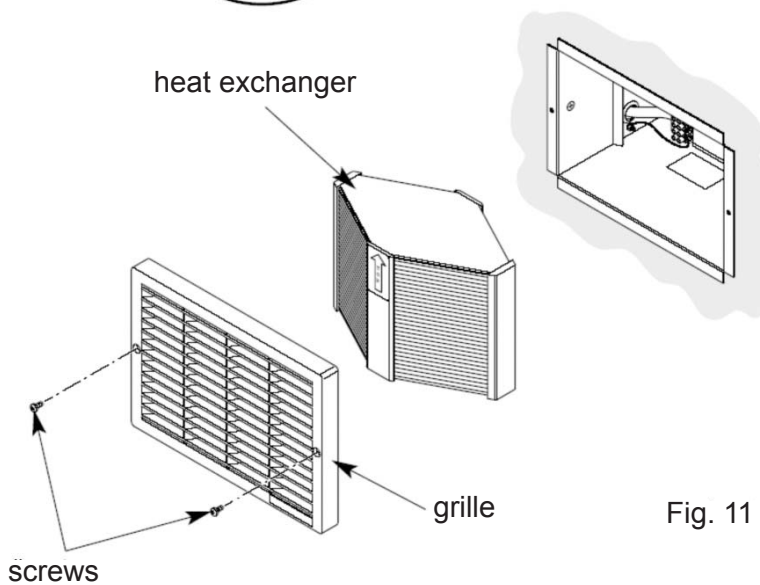

Fig. 11
6. Push the heat exchanger into the unit so that the **TOP** mark points forward and upwards (Fig. 11).
7. Put the grille onto the front of the unit and fasten it with the two screws provided (Fig. 11).